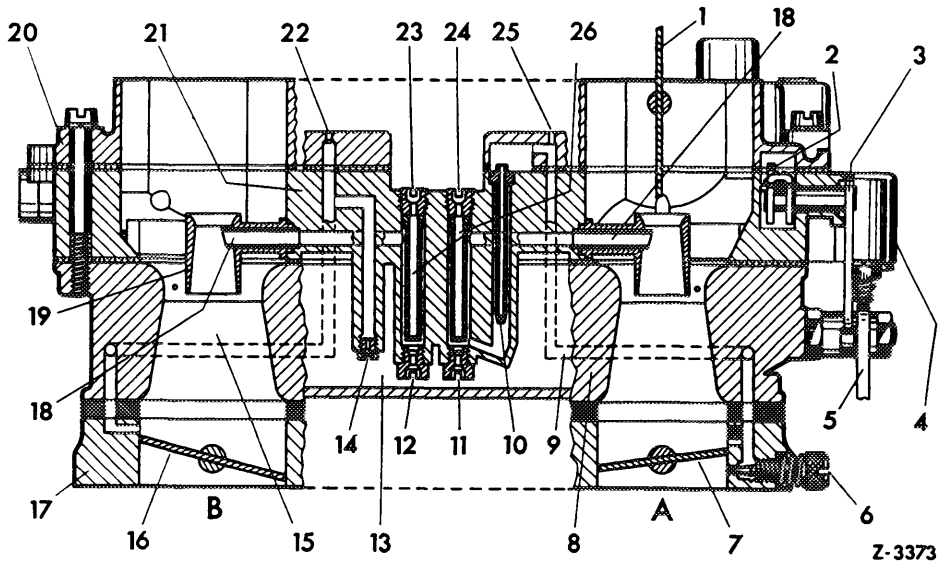

Fig. 07-26/4
From the float chamber fuel flows into the mixing tube bores (reserve) of barrels I and II via the main jets (11) and (12) (see Fig. 07-26/4).